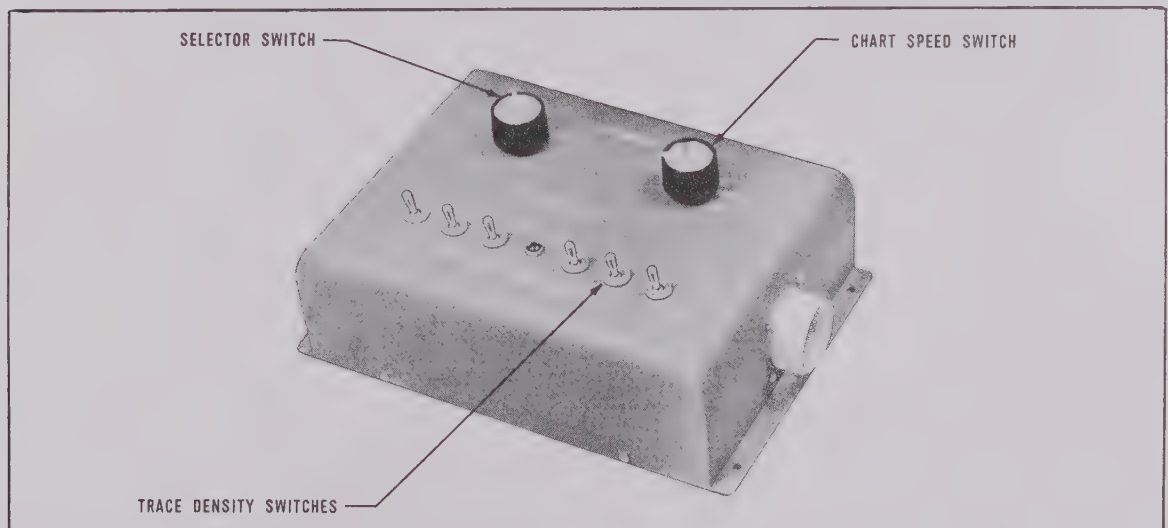

Fig. 9. Remote Control Box with Power Supply for Electric Writing, Model RA 2403-02
2. Place the SELECTOR SWITCH of the Remote Control Box in position marked OFF. Fig. 9.
6. Turn the CHART SPEED SWITCH of the Remote Control Box (Fig. 9) to the desired chart paper speed.